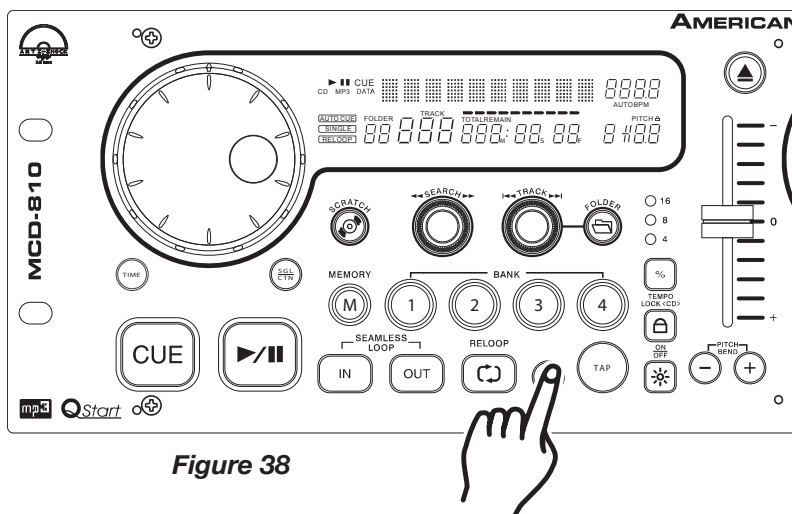

Figure 38
- 3) Now tap the **BOP BUTTON (18)** (Figure 38). It will produce a stutter effect as quickly as you tap on the **BOP BUTTON (18)**.